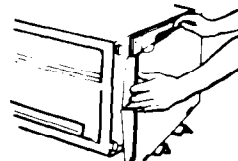

FIGURE 8
6. Lay two carton corner posts or other protective material (such as a throw rug) on the floor, then lay the unit on either of its sides on the corner posts. The corner posts will protect the finish of the compactor and the floor. See Figure 8. NOTE: Do not truck or handle by console.
Remove the cardboard shipping pad located on the bottom. See Figure 8. Stand compactor upright.